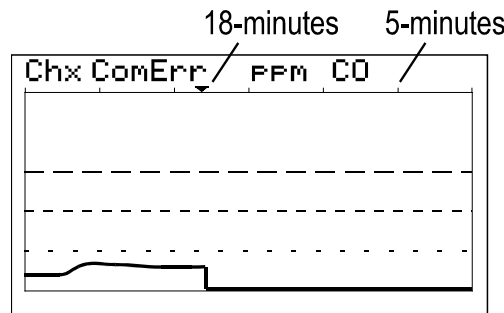

Figure 6.4
- Communications Error** – Each channel’s 30-minute trend screens (Figure 6.4) are very useful for diagnosing wireless problems since it indicates amount of time since the most recent transmission was received. The down arrow on top of the trend screen resets to far right each time a transmission is received by that channel. When not in alarm, GDX-350 RFs transmit each 5-minutes so the arrow should never progress past the 5-minute interval. The GDA-400 activates the channel’s **FAULT** alarm and indicates **ComErr** if no transmission has been received in 18 consecutive minutes.